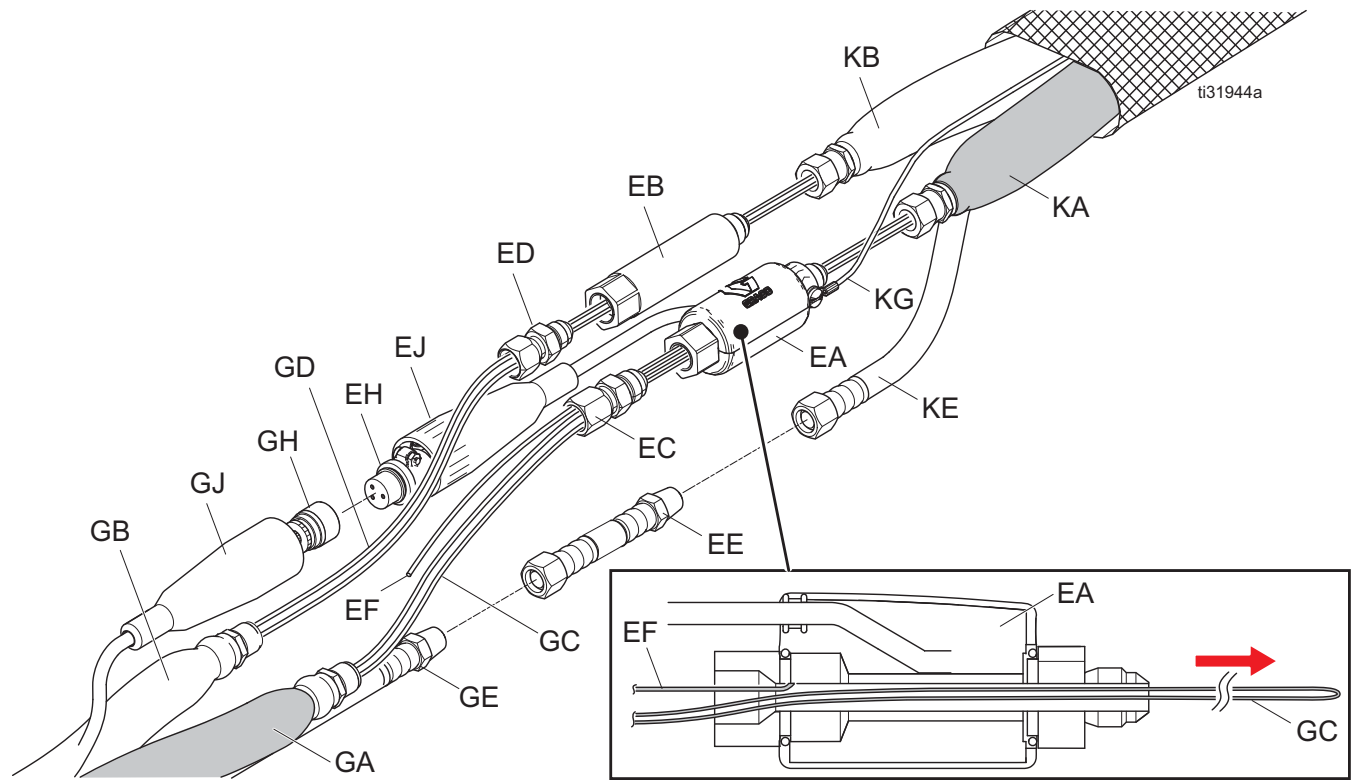
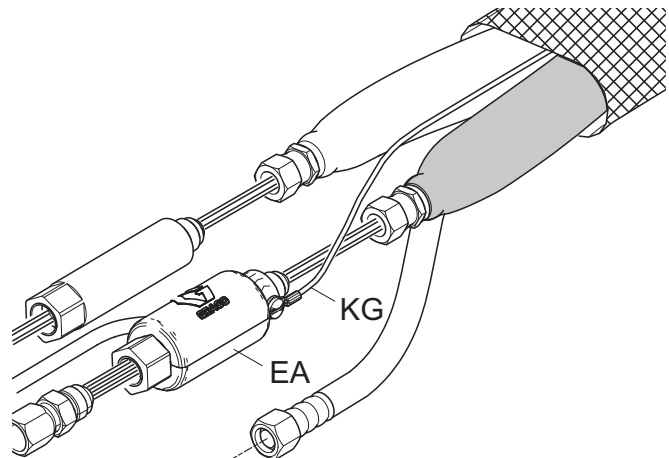

FIG. 6: Connect Unheated Whip Hose to FTS
FIG. 7: Connect Ground Wire to Ground Screw
1. Assemble JIC swivel fitting (EC) in female end of temperature sensor (EA). Straighten probe. Torque connection to 14 ft-lb (19 N•m). Do not over-torque. Assemble JIC swivel fitting (ED) into female end of B hose coupler (EB). Torque to a maximum of 20 ft-lb (27 N•m). Do not over-torque.
3. Feed A-side hose heating elements (GC) through the FTS assembly (EA, EC).
- a. Ensure heating element passes below the temperature sensor probe as shown in FIG. 6.
- b. Slide the FTS down the heating wire to within 24 in. of the hose fitting (GA).
4. Carefully insert FTS probe into the A hose (GA). While holding the A-side heating elements taut:
- a. Hand-tighten the JIC swivel fitting (EL) while ensuring that approximately 1 in. of the heating element can still be pushed in and pulled out of the FTS and hose connection.
NOTE: Refer to FIG. 6, page 21, and FIG. 7, page 22.
1. Feed A-side hose heating elements (GC) into the A side whip (KA). Keep whip hose as straight as possible to aid in insertion.
2. Feed B-side hose heating elements (GD) into the B side whip (KB).
3. Connect ground wire (KG) of whip hose to the ground screw on the FTS (EA). See FIG. 7.